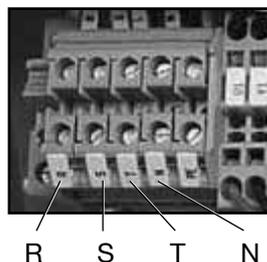

Fig. 12
Step 2: connect the 3 phase AC input + Neutral power leads to terminals R, S, T, N input on **Terminal board** (Fig. 12).